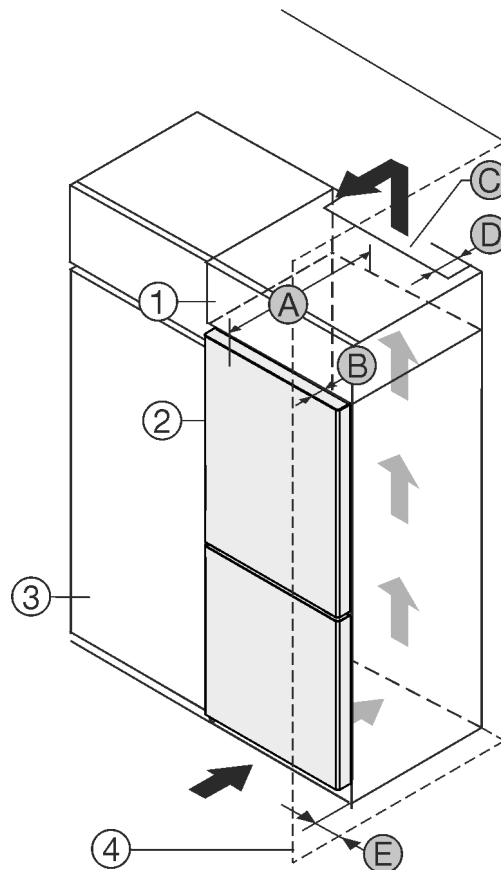

Fig. 1
- (1) Top cupboard
- (2) Appliance
- (3) Kitchen cabinet
- (4) Wall
- (A) Appliance depth
- (B) Door depth
- (C) Ventilation cross section
- (D) Distance to the back of the appliance
- (E) Distance to the side of the appliance
You can place the appliance directly beside the kitchen cabinet Fig. 1 (3).
There must be a ventilation shaft at the depth Fig. 1 (D) of the back of the top cupboard over the entire width of the top cupboard.
The ventilation cross-section Fig. 1 (C) must be maintained under the ceiling.
If the appliance is set up with the hinges next to a wall Fig. 1 (4), the distance between the appliance and the wall must be at least 13 mm.
If the appliance is set up with the hinges next to a wall Fig. 1 (4), the distance between the appliance and the wall must be at least 20 mm.
In order to be able to fully open the door, the appliance must protrude by the depth of the door Fig. 1 (B) from the front of the kitchen cabinet. The appliance may protrude further depending on the depth of the kitchen cabinets Fig. 1 (3) and whether wall spacers are used.